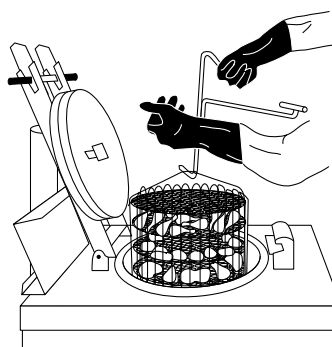
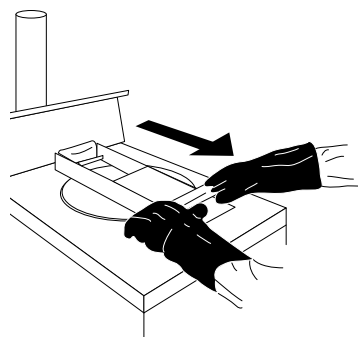

FIGURE 14
FIGURE 15
5. **DANGER:** When Load signal comes on, use safety gloves and basket drain hook to lower basket slowly into hot cooking oil (Figure 14). Use both hands to close and lock lid (push handle down and pull towards you - Figure 15). Be sure handlebar is pulled completely into lid lock block so that lid lock rises up into its locked position (the handlebar can not be moved forward or backward).